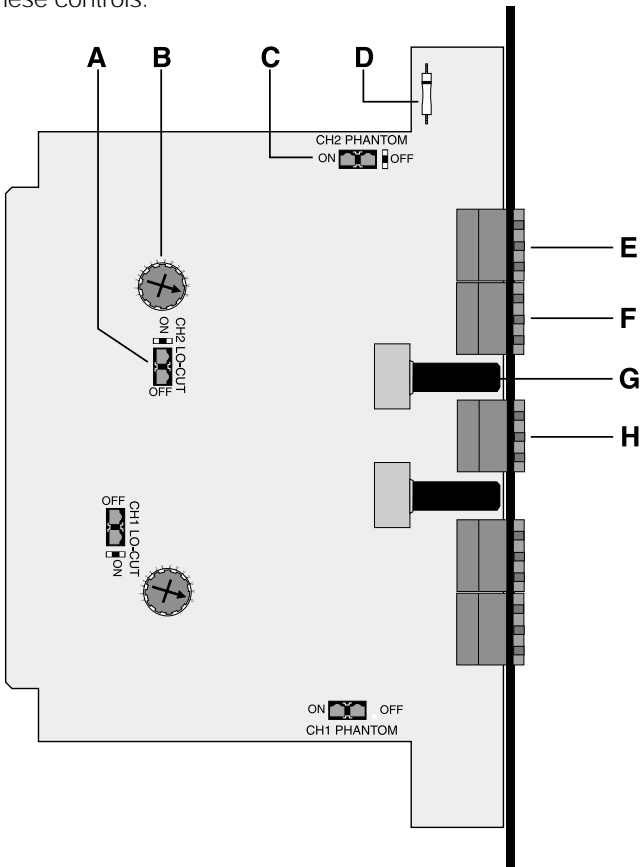

Fig. 2.1 Bottom View
1. Set the microphone phantom power jumper of each channel to the desired position. The on/off positions are labelled on the circuit board (see Figure 2.1).
2. Set the microphone low-cut filter jumpers of each channel to the desired position. The on/off positions are labelled on the circuit board (see Figure 2.1).
3. Adjust the compressor threshold of each channel. A fifteen-mark scale is printed on the circuit board (see Figure 2.1) which corresponds to the typical threshold settings shown in the table in Figure 3.1.
If present, ground loop problems can be reduced by unsoldering or cutting and removing the ground jumper shown in Figure 2.1.